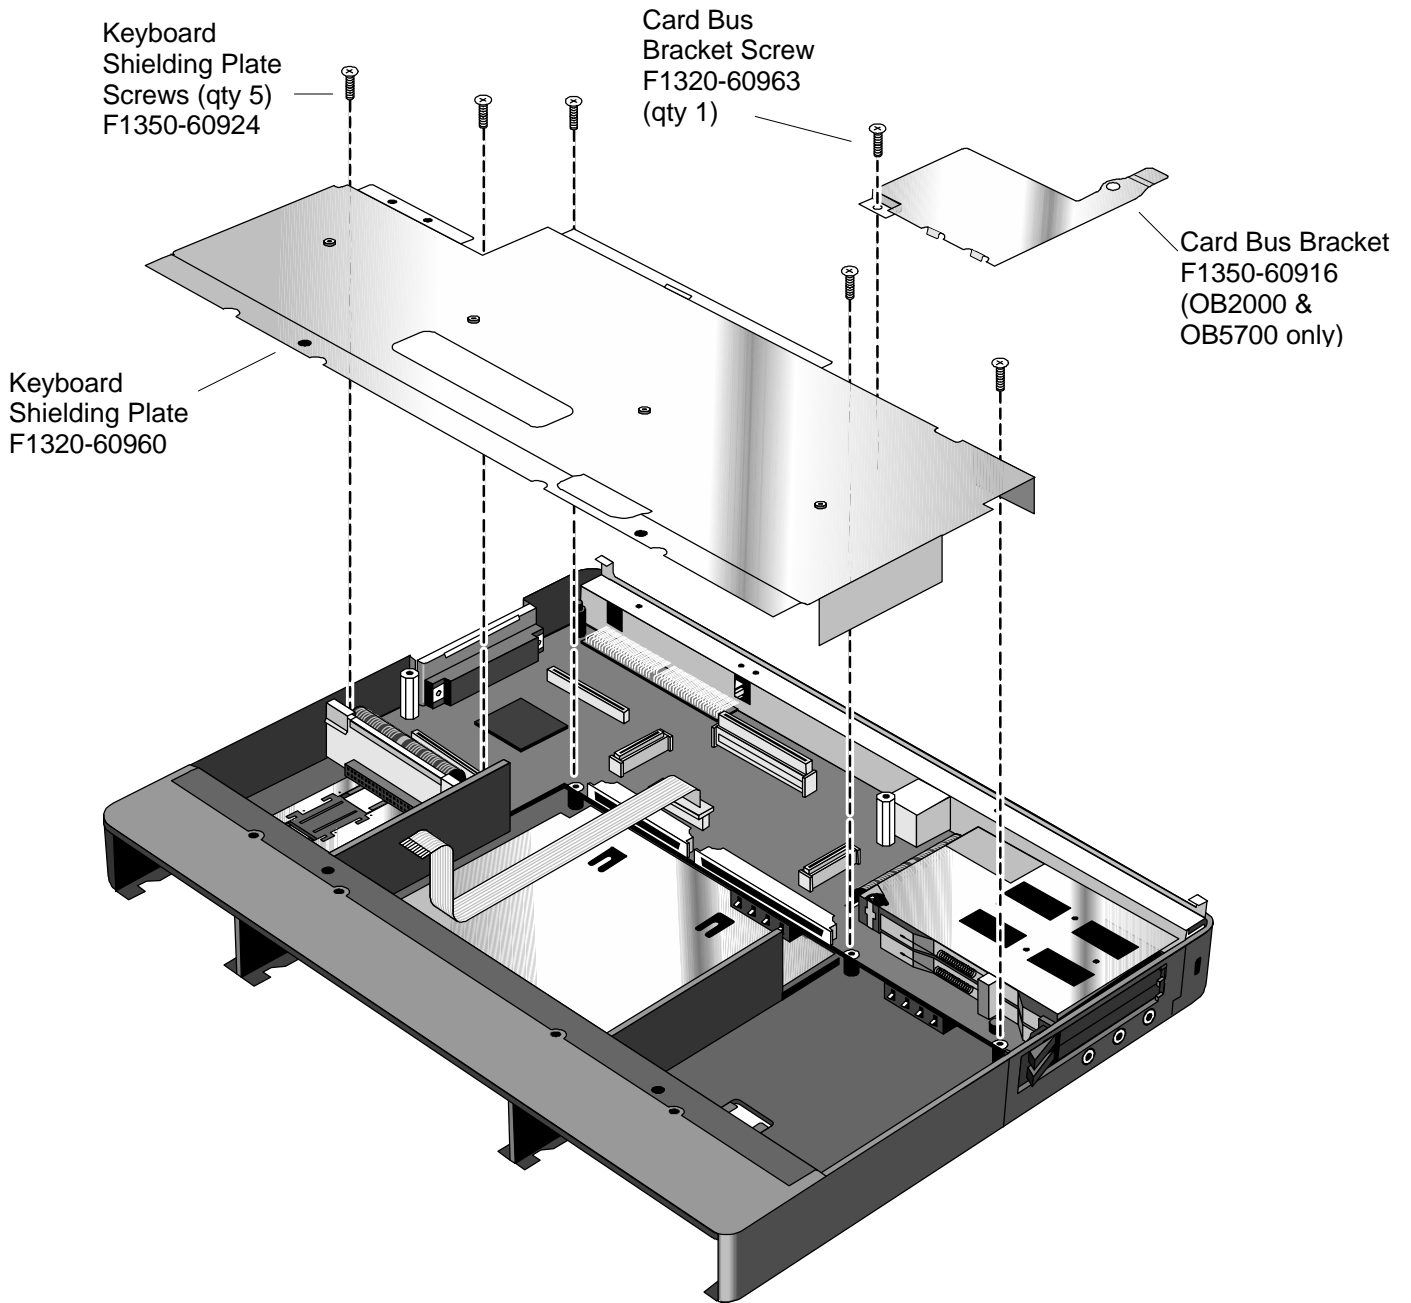

Figure 40 - Keyboard Shielding Plate Removal
4. Now remove the Card Bus Bracket (OB2000 & OB5700 only) then the Keyboard Shielding Plate (five screws). See Figure 40 on page 87 for location of the screws.